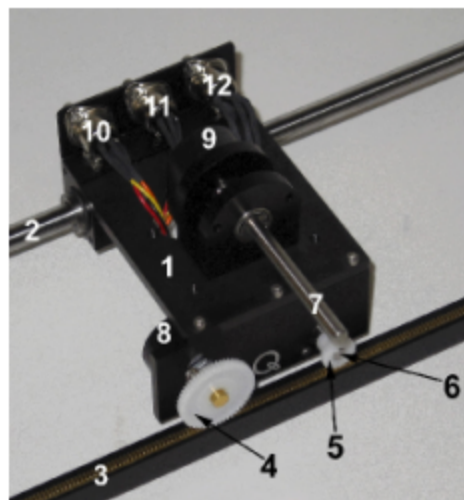

Figure 4: Quanser IP02 cart
Figure 4 shows a picture of the cart used in the lab setup for the pendulum experiments. The main components are the Cart motor pinion (5) with attached 6V DC motor and gearbox (not visible in the figure), the Cart position pinion (4) with attached encoder (8) and the pendulum axis (7) with attached encoder (9).